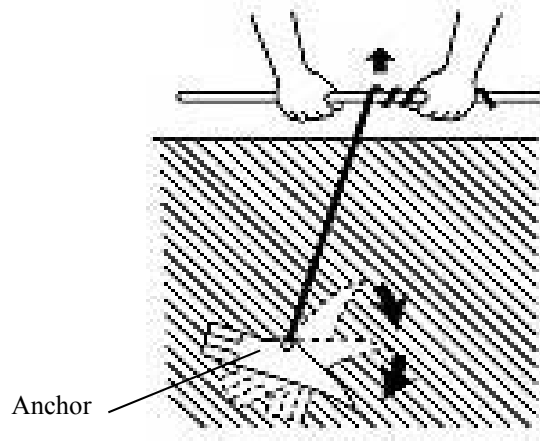

FIGURE 3-23. Locking anchor
Step 3: With a rod through the loop or metal ring, pull up on the cable or threaded rod until the anchor rotates and locks (see FIGURE 3-23).